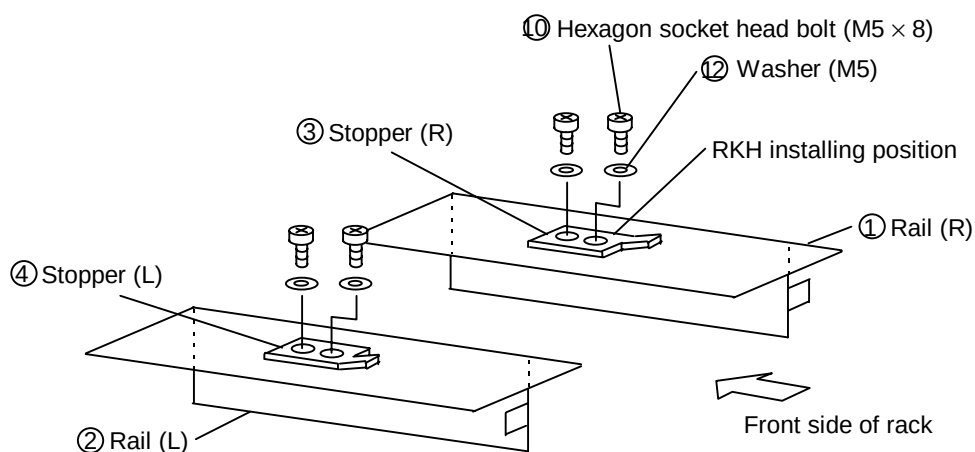

Figure 1.4.2 Temporary Attachment of the Stopper
1.4.3 Installing the rails (See Figure 1.4.2 and 1.4.3.)
- (1) Temporarily secure the ③ Stopper (R) to the ① Rail (R) using ⑩ Hexagon socket head bolts (M5 × 8) and ⑫ Washer (M5) (at two places). (See Figure 1.4.2.)